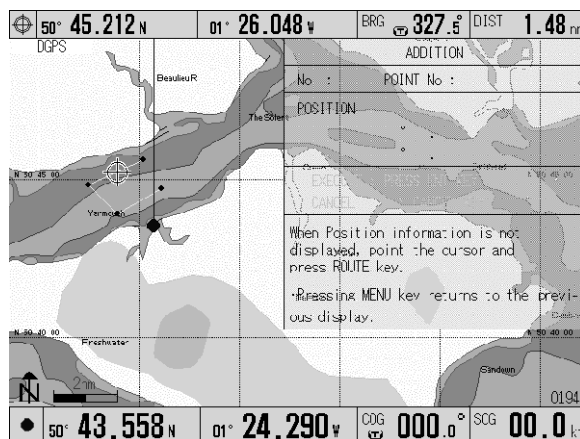

Figure 6.42a ADDITION menu (2)
- (8) Move the added node to a desired point using the Joystick. (Figure 6.42a)